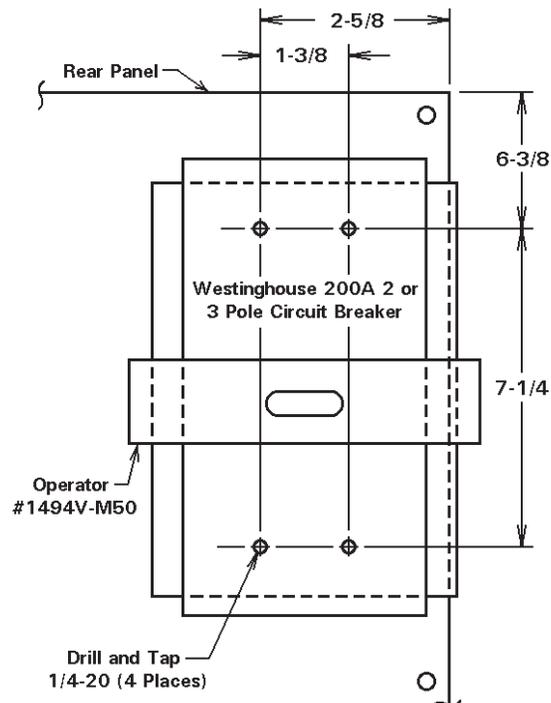

Figure 11
2. Drill and tap the Rear Panel as shown in Figure 11 (“L” Cabinet Rear Panel is already drilled).